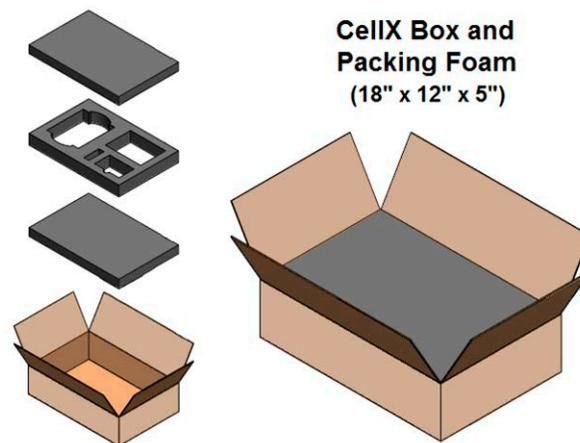

Figure 11-1. Shipping Container - Single Base CellX (OEM)
Figure 11-1 shows the box and packaging material qualified for shipping that is used for a single CellX laser system
When using the following procedure, refer to Figure 11-1 to correctly set in position all components in the shipping box.
6. For CellX with Fiber system, packaging is similar to as it is shown in Figure 11-1, but with an additional tray and foam layer on top for the fiber assembly. Do the following: